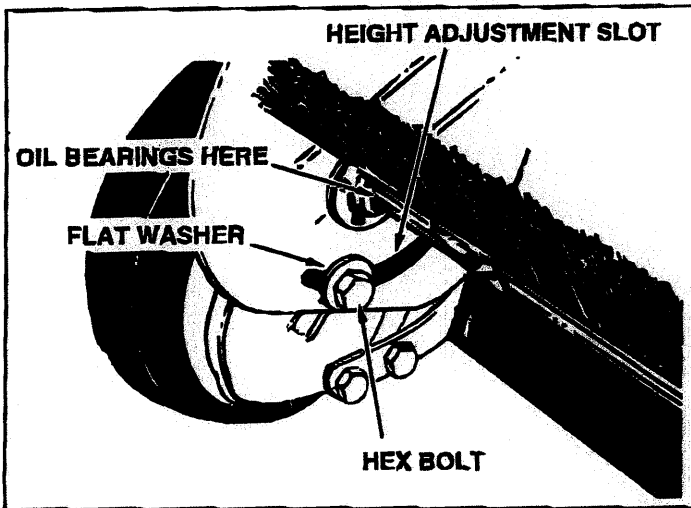

FIGURE 7
- Lubricate the brush shaft bearing twice a year with a few drops of light weight oil. See figure 7.